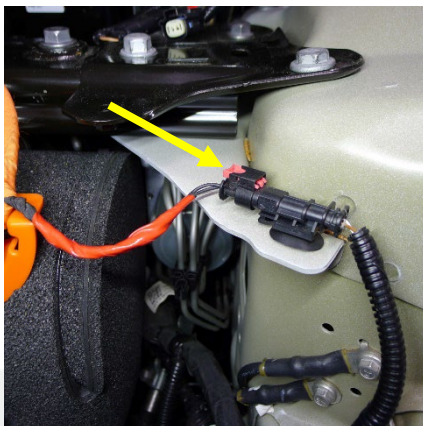

Figure 40
31. Connect the A/C compressor HVIL connector to the electrical harness at the LH shock tower, and then push the red tab in to lock the connector (Figure 40).